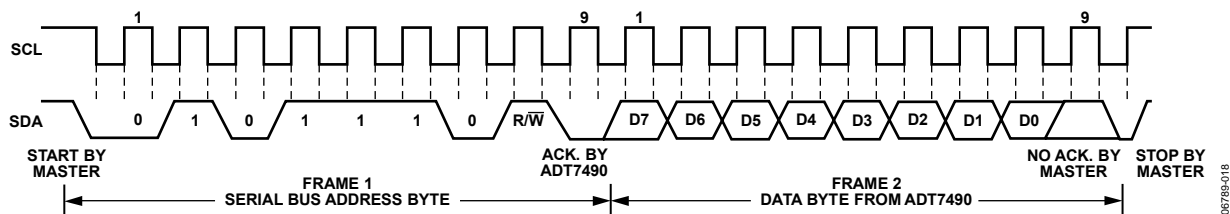

Figure 21. Reading Data from a Previously Selected Register
- If the address pointer register is known to be already at the desired address, data can be read from the corresponding data register without first writing to the address pointer register, as shown in Figure 21.